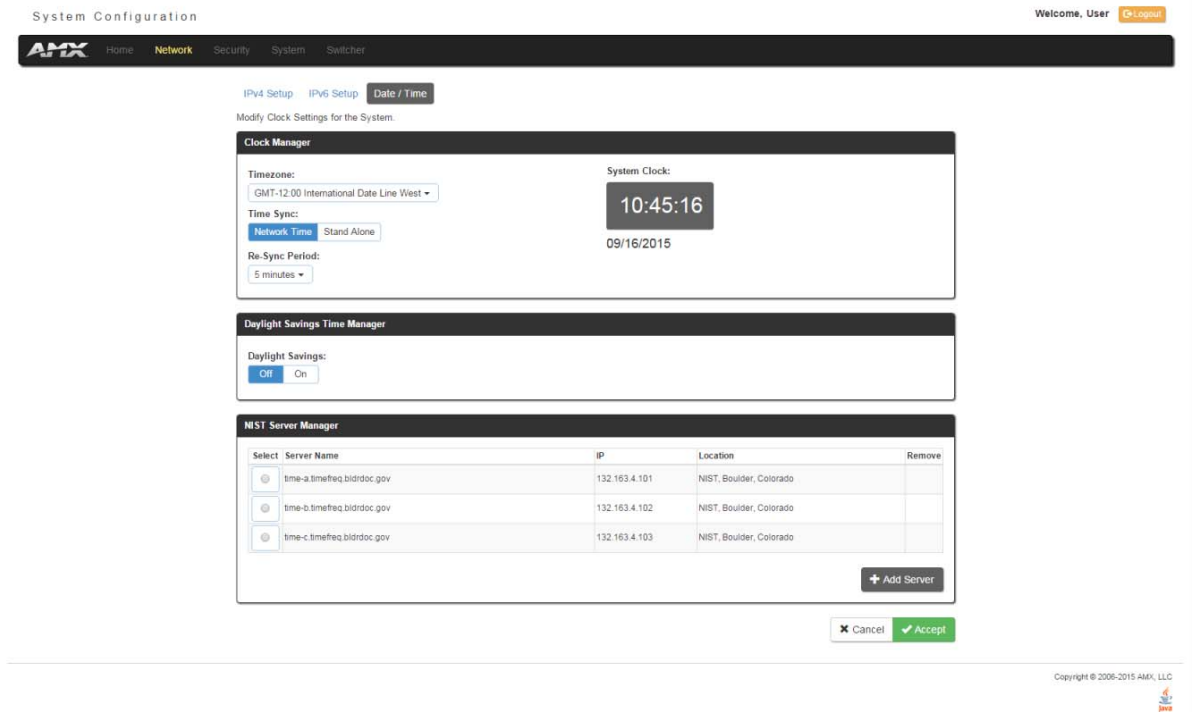

FIG. 33 Network - Date/Time page
Click the **Date/Time** link (on the *Network* page) to access the *Date/Time* page (FIG. 33). The options on this page allow you to enable/disable using a network time source and provide access to Daylight Saving configuration and which NIST servers to use as a reference.
- In the *Manage System* tab (FIG. 33), select a **Time Sync** option.